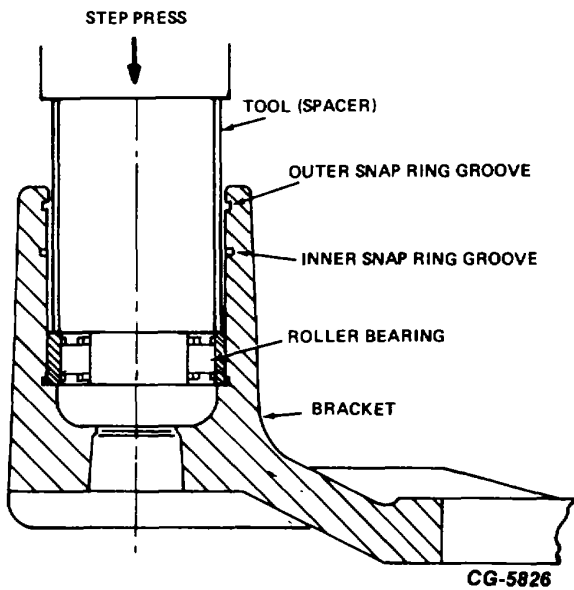

Figure 38. - Installing Roller Bearing
4. Supporting the base of the idler bracket, press roller bearing outer race and roller assembly into idler bracket until it bottoms against bracket as shown in Figure 38. APPLY FORCE TO OUTER RACE ONLY.